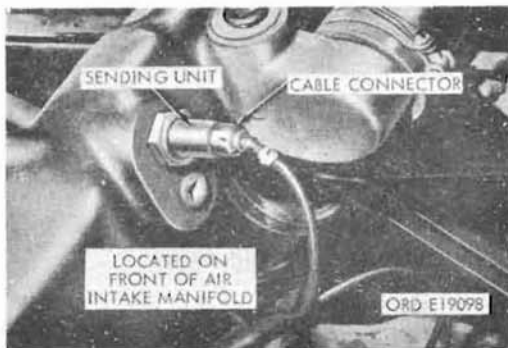

Figure 177. Temperature gage sending unit
- (1) Water temperature and oil pressure gage sending units. These units have pipe thread connections. Disconnect the proper cable (fig. 177 or 178), and remove unit.
- (2) Fuel gage sending unit.
- (1) Water temperature and oil pressure, gage sending units. These units have pipe thread connections. Coat the threads with an approved heat-resistant sealer, screw the unit into its mounting hole and connect the proper cable (fig. 177 or 178).